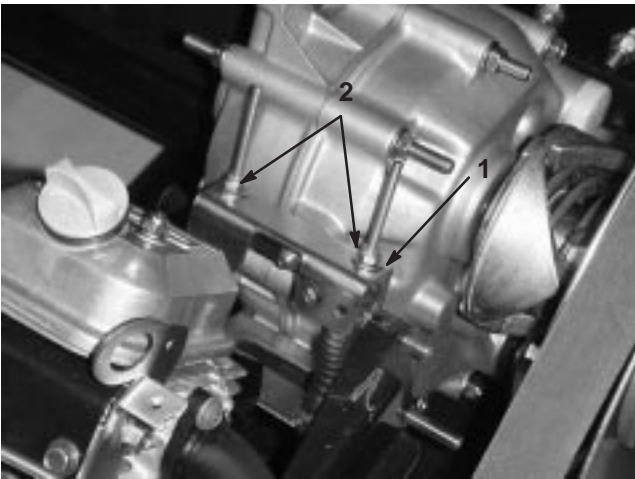

Figure 26
When performing routine maintenance and/or engine diagnostics, the transaxle must be shifted into neutral (Fig. 26). The vehicle has a neutral position on the shift lever, which controls the neutral in the transaxle. The following steps should be taken to make sure that the neutral shift lever operates the transaxle neutral correctly:
- 2. Set the neutral bracket on the transaxle to the neutral position (level), turn the drive clutch, and check to see if the vehicle rolls back and forth (Fig. 26).
- 3. Tighten one of the locknuts (Fig. 26) just enough to take the slack out of the shift cable.